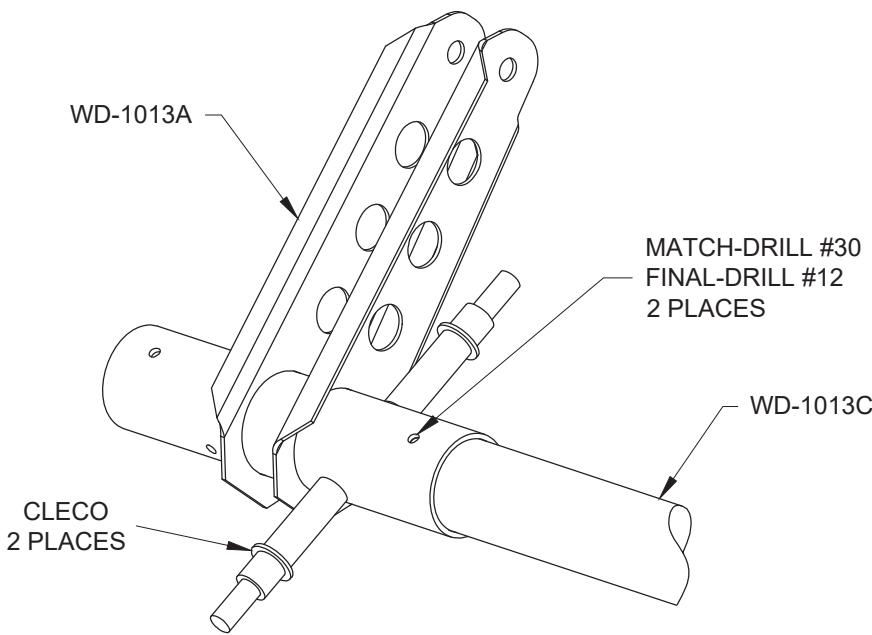

FIGURE 3:
Step 3: Cleco the **WD-1013C** Flap Torque Tube to the inboard most set of holes in the **WD-1013A** Flap Crank as shown in Figure 3. Match-Drill the flap torque tube as per the call-out. Match-Drill both 1/8 diameter holes from the outside in, using the pre-drilled holes in the flap crank as guides.